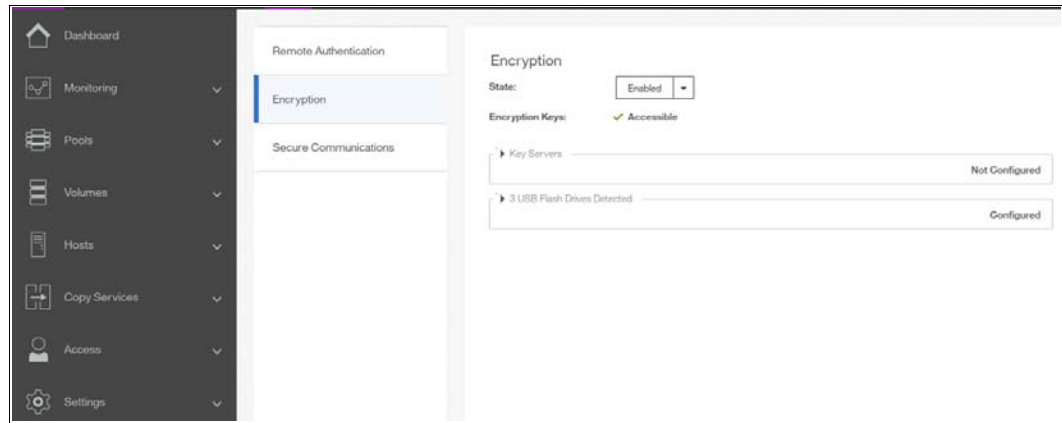

Figure 13-29 Encryption view showing using USB flash drives as the enabled provider
7. You can confirm that encryption is enabled, as well as verify which key providers are in use, by going to **Settings** → **Security** → **Encryption**, as shown in Figure 13-29 on page 726.